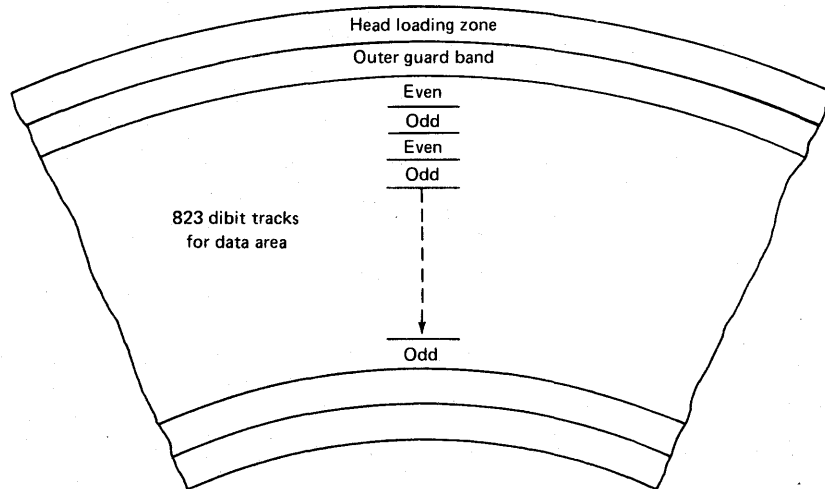

Figure 50. Dibit tracks for the data area
18. Refer to figure 50. The next 823₍₁₀₎ dibit tracks start with a negative (even) dibit track and alternate between negative and positive, with the last track being positive (odd). The signal, which is developed by the servo head when it is not in a seek operation, is used to generate the basic 806 KHz clock signal to control the disk-drive timing for write operations.